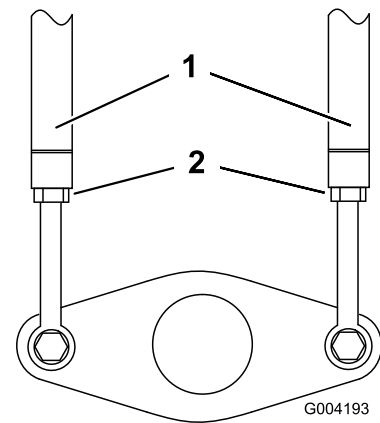

Figure 69
3. Loosen the jam nuts on the traction rods, under the control panel (Figure 69).